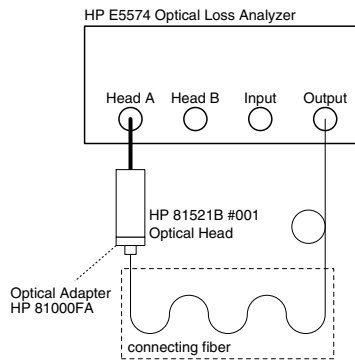

Figure D-6
- a Connect the equipment as shown in Figure D-6. (Set-up for performing the test with Head Input A. For performing the test with Head Input B connect the (second) HP 81521B#001 Head to Head Input B.)
- d Unmount the protection cap and connect the equipment as shown in Figure D-6.